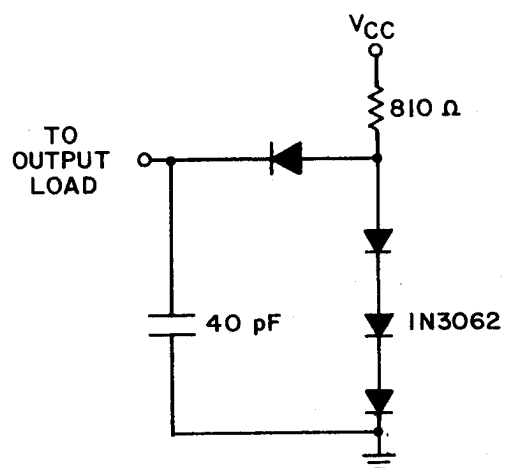

FIGURE 5. Load circuit for delay measurements.
3.2.5 Load circuit. The load circuit shall be as specified in figure 5.